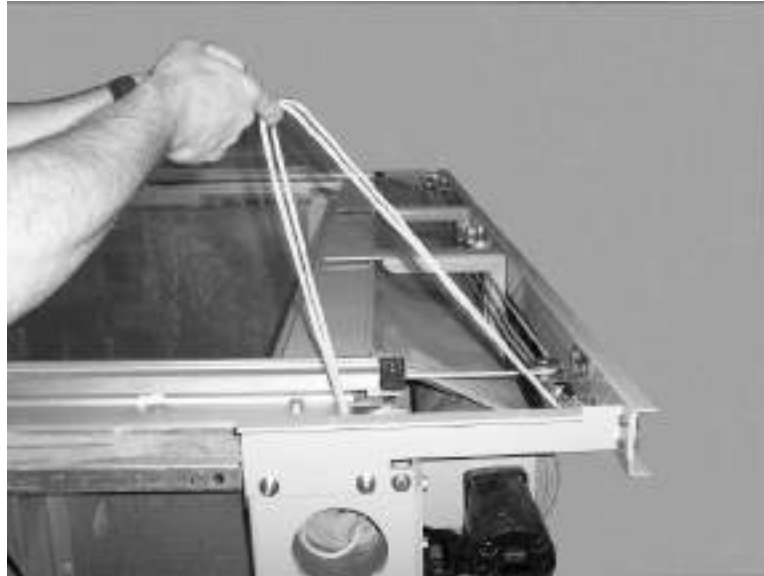

Fig 21
5. This step is best done with a helper. Pull both ropes away from the reel and turn the key to CLOSE and feed the ropes evenly onto the reel and release just before the rope are fully on the reel. (Fig 21)